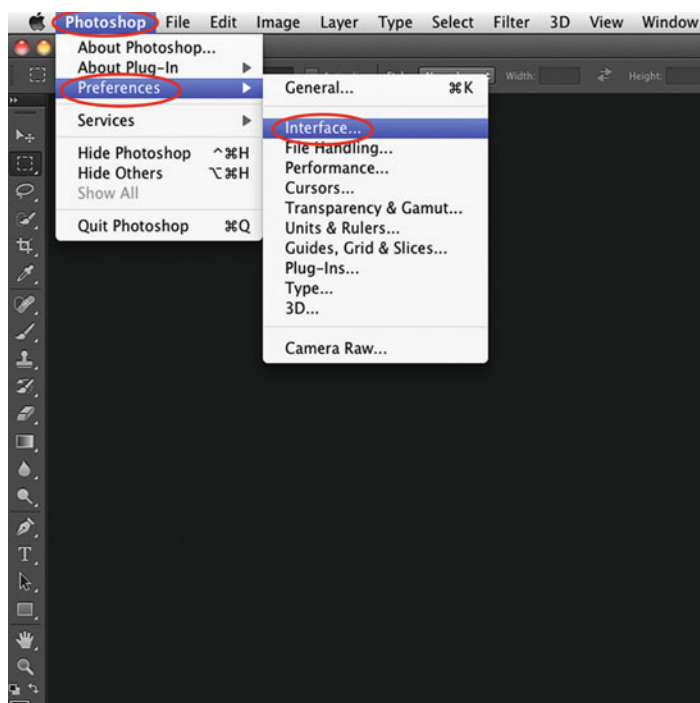

FIGURE 4.13 Clicking on Photoshop in the menu bar and dragging down to Preferences then Interface in Photoshop to launch the interface Preferences window.
1. Launch Photoshop's Interface Preferences window by clicking on **Photoshop** in the menu bar and dragging to **Preferences** and then **Interface**, as shown in Figure 4.13.